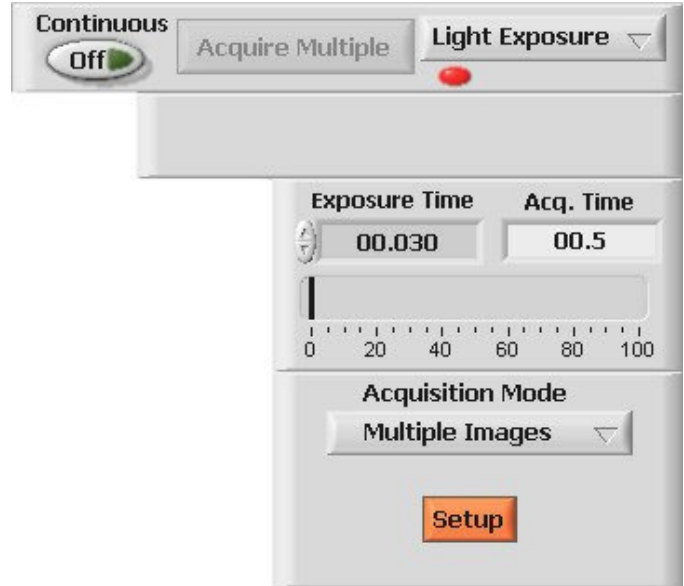

Figure 3.24 Multiple Acquisition Controls
**Multiple Image** acquisition is used to take a sequence of images at a set time interval. It is also used to acquire a sequence of images using the external trigger option, which is discussed further in Section 5.1. In **Multiple Image** acquisition mode, each image is saved to the disk automatically as a separate file. The **Setup** button is initially red and the **Acquire Multiple** button is disabled, indicating that the setup needs to be done before the acquisition can be started (see Figure 3.24).
With the setup complete, multiple image acquisition is initiated by pressing the, now enabled, **Acquire Multiple** button shown in Figure 3.24. The **Progress** indicator (Figure 3.19) shows the progress of each image acquisition and the **Acquiring 0 of 10** indicators display the progress in the sequence of images the same as when averaging images.